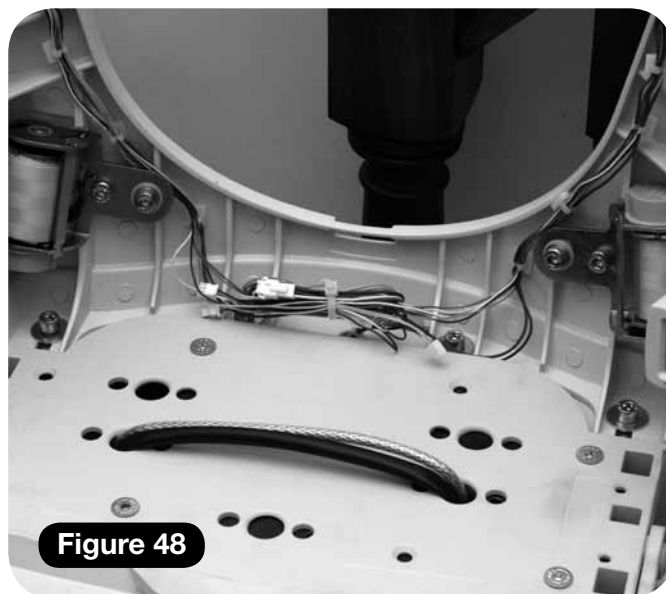

Figure 48
- 3 Tidy the cables to the back of the seat **(Figure 48)**.